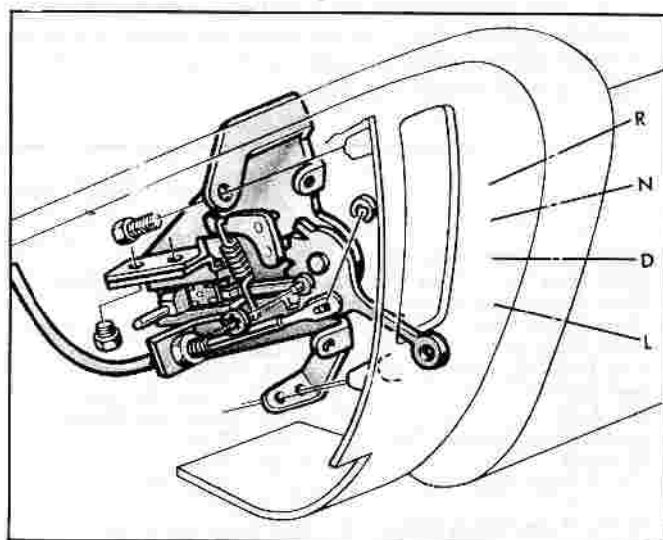

Fig. 7E-4—Neutral Safety Switch
4. Insert the shift cable into its mounting bracket on the range selector. The attachment of the cable to the bracket is critical, so be sure that the flat on the cable sheath is flush when the cable is installed (fig. 7E-4). Holding the sheath nut with a wrench, install the sheet metal nut on the threaded portion of the sheath to secure the cable to the range selector bracket.